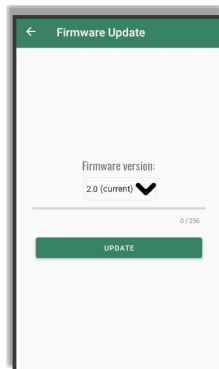
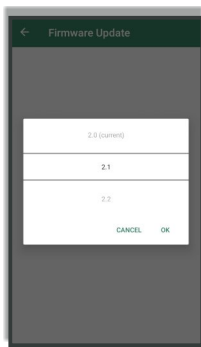

Figure 21
Figure 22
Step 2: On the **Firmware Update** screen (Figure 21), the current firmware version will be displayed. Touch the checkbox and choose the version you want to install (Figure 22). **Always try to install the latest version to ensure that your converter is always up to date.**